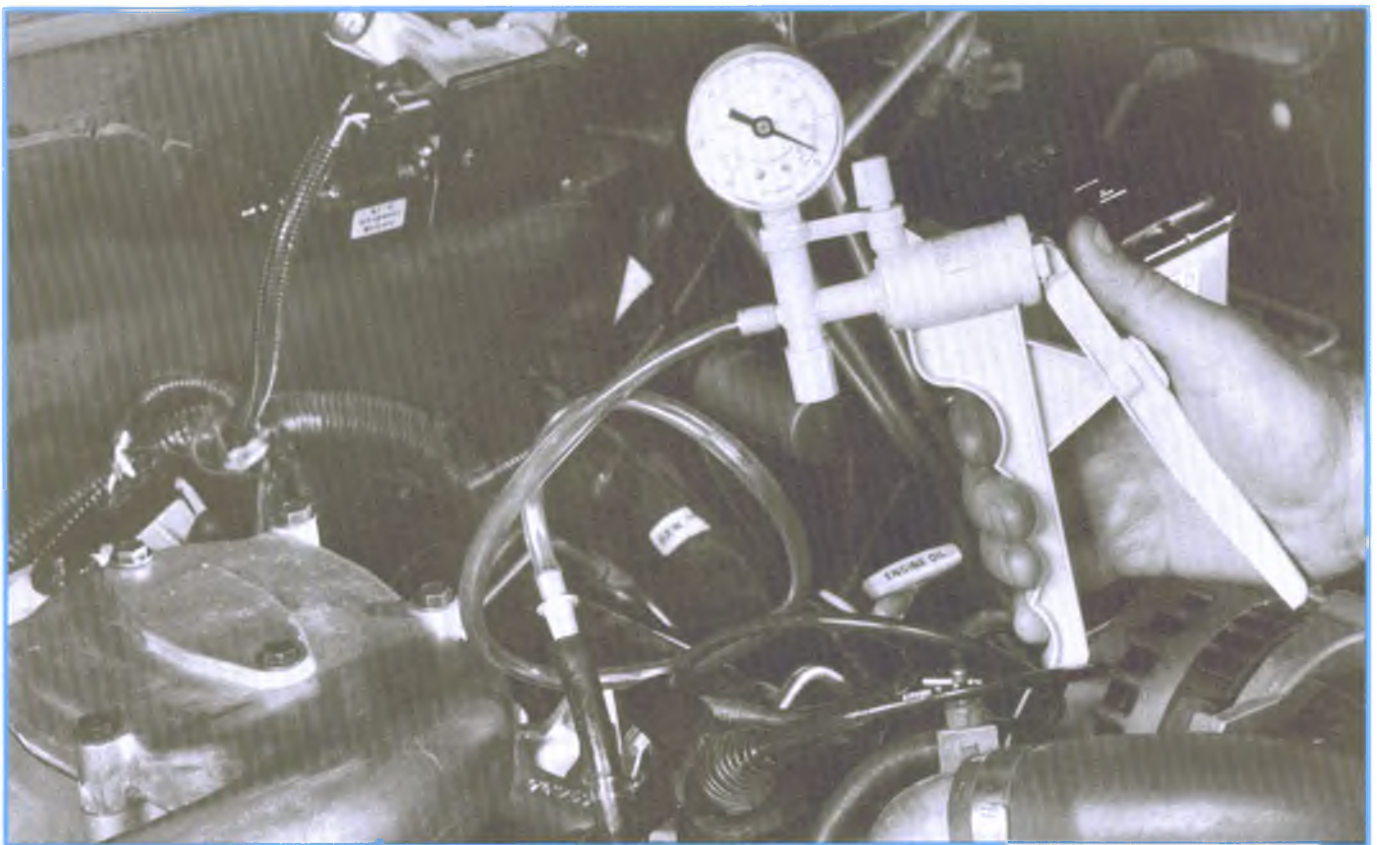

Figure 7-71, Fuel Return Line Restriction Check
- C. Apply vacuum to the return line and observe the gauge reading (see Figure 7-71):